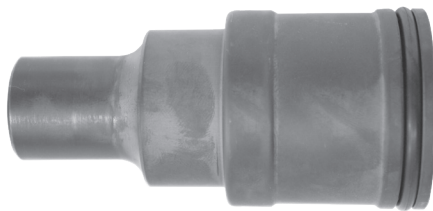
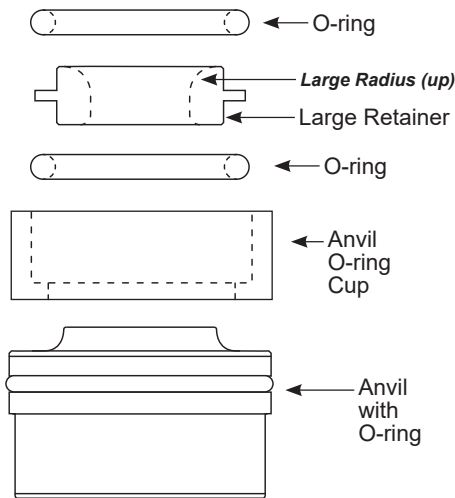

Fig. 14 - Small end of Hammer is toward the anvil.
Fig. 16 - Insert O-ring into Anvil O-ring Cup, then insert Large Retainer (with large radius up), then insert other O-ring.
THREADS. Use caution stabilizing the connecting rod and crankshaft (p/n 300040) to avoid damaging them. Use a small wood or plastic block to keep the crankshaft from rotating. When the crank pin is removed, the piston, connecting rod, and hammer can be removed by pushing the connecting rod down into the cylinder until it can be removed from the bottom of the post driver body. Note position of the hammer. The small end of the hammer is toward the anvil as shown in (**Fig. 14.**) Clean and inspect the hammer for damage. The hammer o-ring seal (p/n 301610-2) should be replaced at this time.
Lubricate the hammer with Rhino® Pro Series Rhino Pro Series Lubricant. Insert the hammer into the cylinder, taking note of the small end toward the anvil as shown in **Fig. 14.** Push the hammer into the cylinder making room to insert the anvil o-ring retainer. Apply Rhino® Pro Series Lubricant to the anvil o-ring retainer and place the small end into the cylinder. The Rhino® Pro Series Lubricant should hold it in place. Lubricate with Rhino® Pro Series Lubricant and assemble the large retainer and the two (2) large retainer o-ring seals in the order shown in (**Fig. 16 on next page**) and assemble into the anvil o-ring cup.